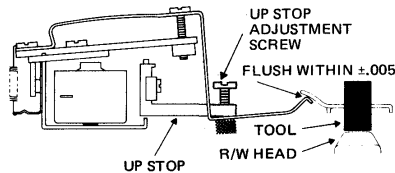

FIGURE 2 HEAD LOAD ACTUATOR UPSTOP ADJUSTMENT
- h. Adjust up stop on actuator so that bail just touches Head Load Arm or has $.005''$ clearance or lifts Load Arm $.005''$. Reference Figure 2.